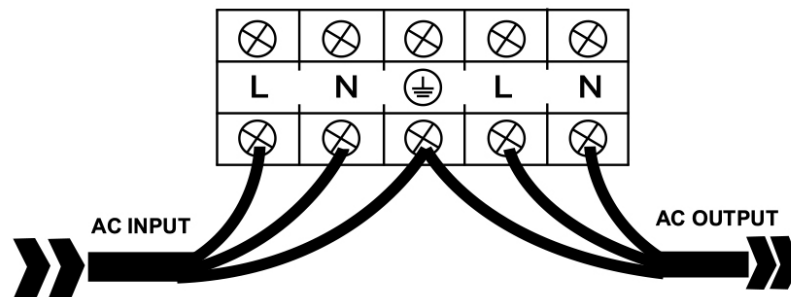

Figure 8 - INPUT/OUTPUT terminals (only Single-Phase models with power 3.5 KVA and higher)
- 2.1. Remove the metallic panel that covers the **Input/Output terminals**. The terminals are shown in figure 8. All the cables have to reach the terminals from the rear side using the proper holes in the metallic panel.
- 2.2. Connect the **AC INPUT line (LINE, NEUTRAL and GROUND)**, paying attention to the right polarity, in accordance with figure 8, as explained below: